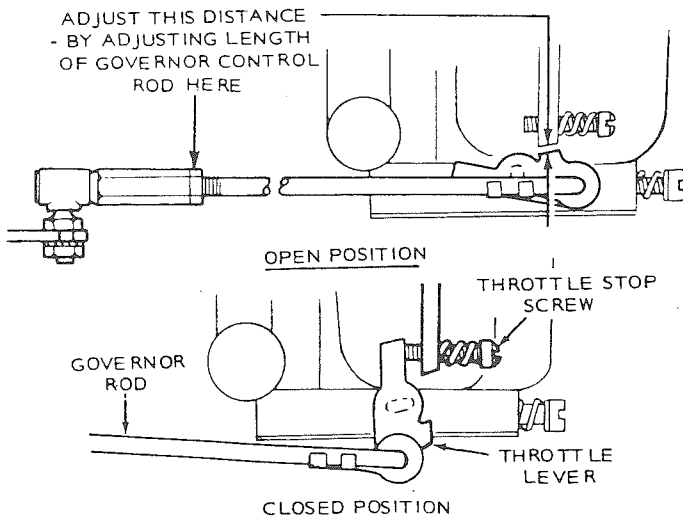

Figure 213 – Throttle Stop Screw Setting
**Linkage:** The engine starts at wide open throttle. The length of the linkage connecting the governor arm to the throttle shaft assembly is adjusted by rotating the ball joint. Adjust this length so that with the engine stopped and tension on the governor spring, the stop on the throttle shaft assembly almost touches the throttle stop screw housing on side of carburetor (one more turn of governor ball joint would allow throttle shaft linkage to rest against stop screw housing). (See figure 213.)
**Throttle Stop Screw** — The throttle stop screw is located on the base of the carburetor (opposite side from main power adjustment needle) near the crankcase breather valve. It must be adjusted to obtain 56 hertz at no load with the throttle closed as far as possible (throttle shaft lever touching adjustment screw (see figure 213).
1. Run the generator set with at least a 50% load until thoroughly warm. Usually about one (1) hour).